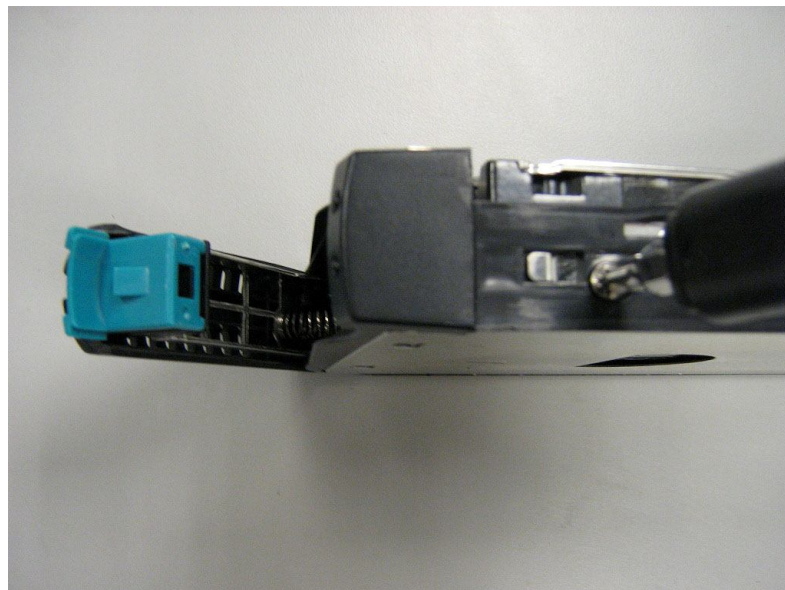

Figure A-12 Secure the Hard Drive in the Drive Tray
4. Align the mounting holes and insert four mounting screws to hold the drive securely in the drive tray as shown in Figure A-12.